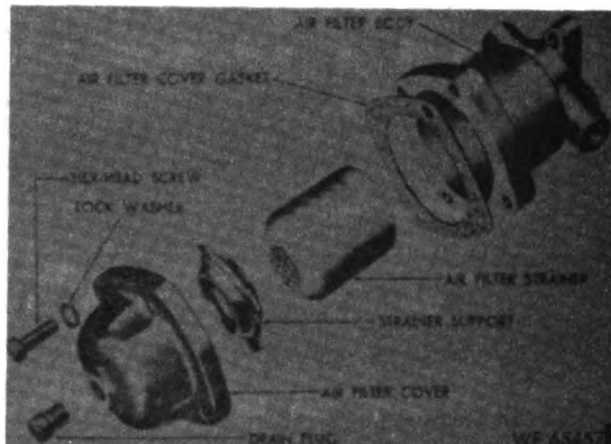

Figure 153. Air filter — exploded view.
To remove the air filter strainer (fig. 153) for cleaning, remove the hexagon head screws and lock washers connecting the air filter cover to the air filter body. Be careful not to lose or damage the air filter cover or the air filter body. Be careful not to lose or damage the air filter cover gasket. Draw the strainer from the body if it has not dropped out. Remove the strainer support from the cover.
**b. Assemble Air Filters.** Install the strainer support in the air filter cover (fig. 153). Place the air filter strainer on the strainer support in the cover, and insert the
- (5) Apply soapsuds to the joint between the air filter cover (fig. 153) and the air filter body. If a leak is evident, tighten the hexagon head screws holding the cover to the body. If this fails to stop the leak, notify ordnance maintenance personnel.
- (6) Apply soapsuds to all joints and connections on the air tank and emergency relay valve. If any leakage is found, notify ordnance maintenance personnel.
- (2) To drain the air filters, remove the drain plug from the bottom of the air filter cover (fig. 153), allow the water to drain, and install the plug.
120), brushing off accumulated foreign matter, and washing the air filter strainers (fig. 153) and air filter cover and strainer support with dry-cleaning solvent or volatile mineral spirits. Allow the parts to dry thoroughly and assemble the air filters (par. 121b).